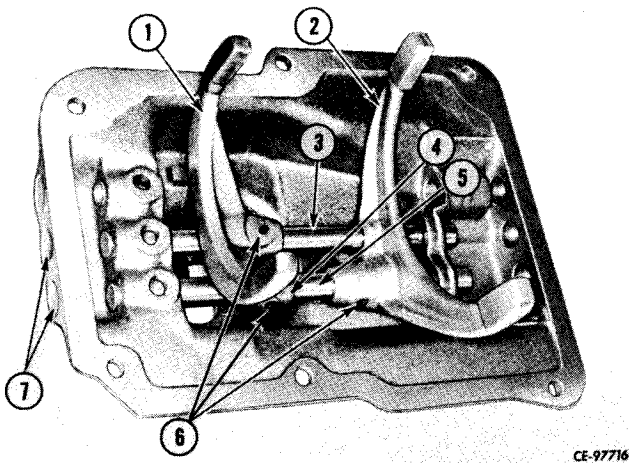

Figure 4-22
Remove roll pins (6, Fig. 4-22) separating shifting forks from shifting rails. Drive shifting rails (3, 5) out through control housing removing expansion plugs (7) on the way out.